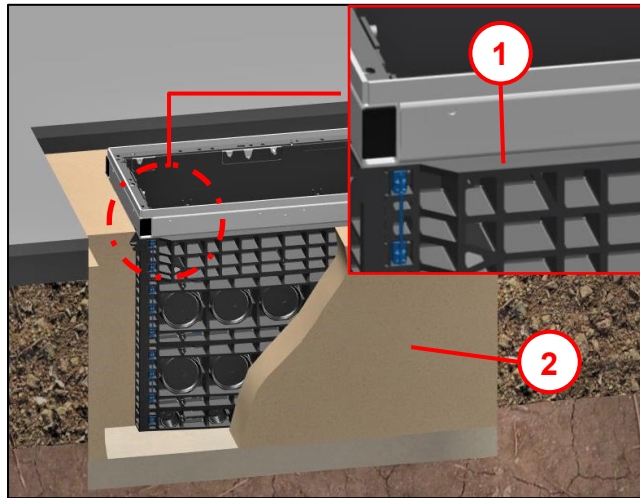

Fig. 30
- Backfill the foundation pit in layers using material suitable for compacting **(3)** in accordance with ZTV A-StB 12 (and/or ZTV E-StB 09) up to the **contact surface of the top frame (2)** (see also Fig. 30 **Fehler! Verweisquelle konnte nicht gefunden werden.**).